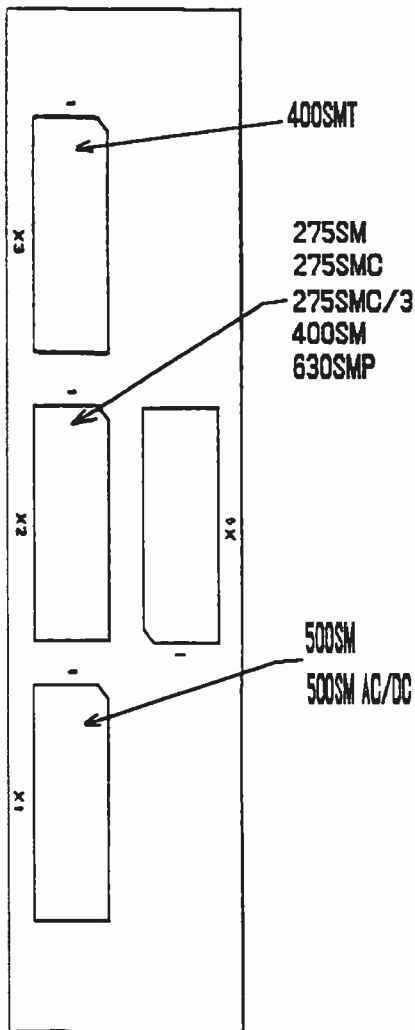

Figure 1 - Power Source Selection
3. Unplug the connector from **X1**, **X2** or **X3** and plug it into the correct connector for the power source you are using. See **Figure 1 - Power Source Selection**.